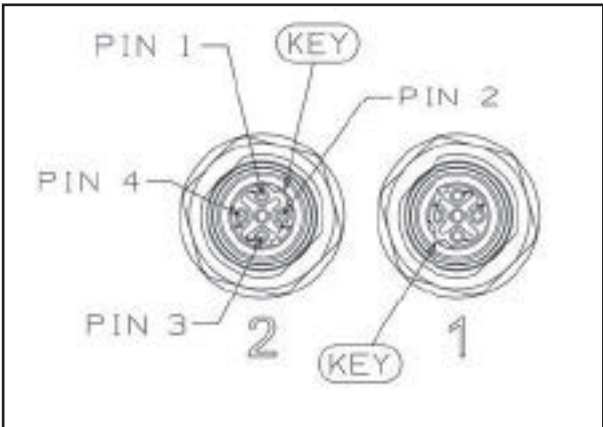
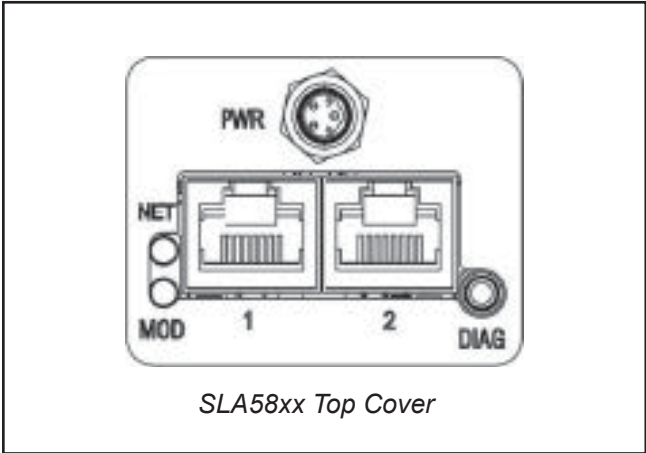

Figure 4-1 Pin Labeling of M12 Female Connectors (2 per device)
Figure 4-4: PROFINET Top Cover SLA5800
- In and Out M12 threaded female connectors labeled “1” and “2” for PROFINET™ Communications (Figure 4-1).
The available physical interfaces on the PROFINET™ SLA5800 Device are listed below (Figure 4-4):
As noted in the Physical Interface Sections, above, each SLAMF device has (2) M12 4 Pole, Female “D” Coded Connectors (Figure 4-1) labeled 1 and 2. Network connections can be made to either, or both, ports, depending on the network topology. And each SLA5800 Series PROFINET™ device has (2) RJ-45 Ethernet Connection ports (Figure 4-4). The SLA5800/SLAMF Series PROFINET™ device will support star and linear. It does not support DLR (Device Level Ring) topology.